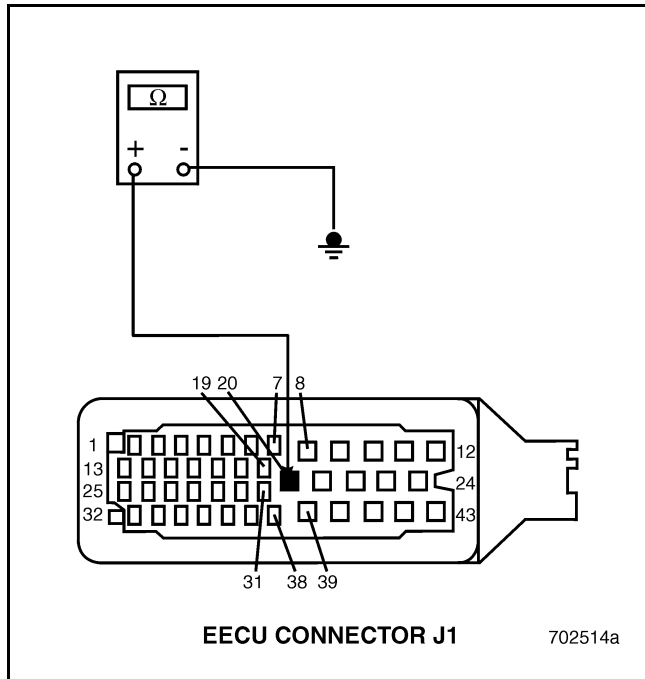

Figure 428
4. Check for continuity between EECU harness connector J1, pin 20 and a good ground (see Figure 428).